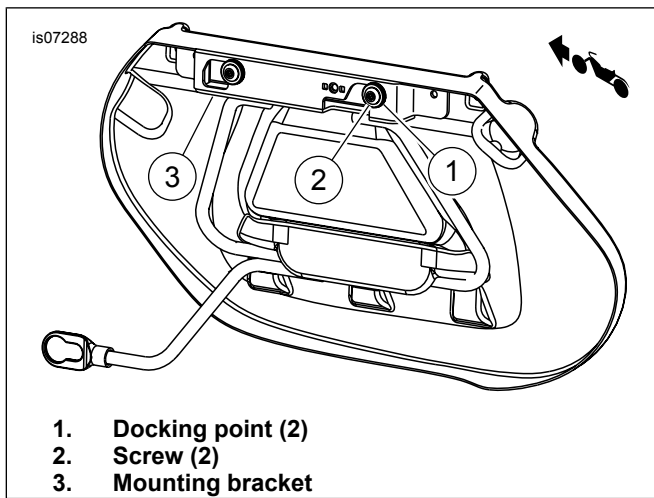

Figure 2. Mark Drilling Locations
- d. See Figure 2. Insert docking points (1) into mounting bracket (3). Insert a screw (2) through each docking point and saddlebag to position the bracket.